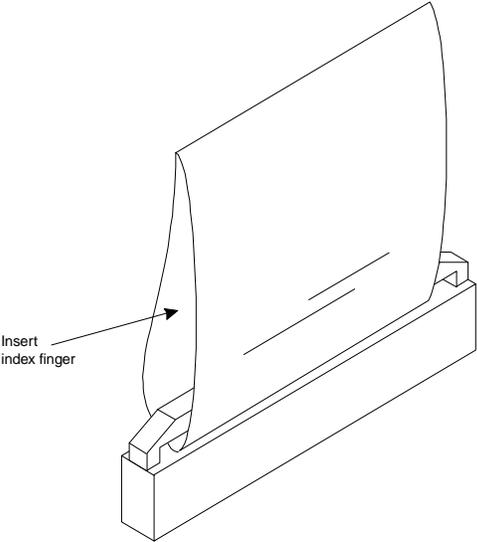

Figure 7-14. Signal Processor/Companion Connector Loop
4. Insert your index finger into the plastic loop (Figure 7-14) and hold the card steady with your free hand.
1. Insert a finger into the flexible plastic loop (Figure 7-14).